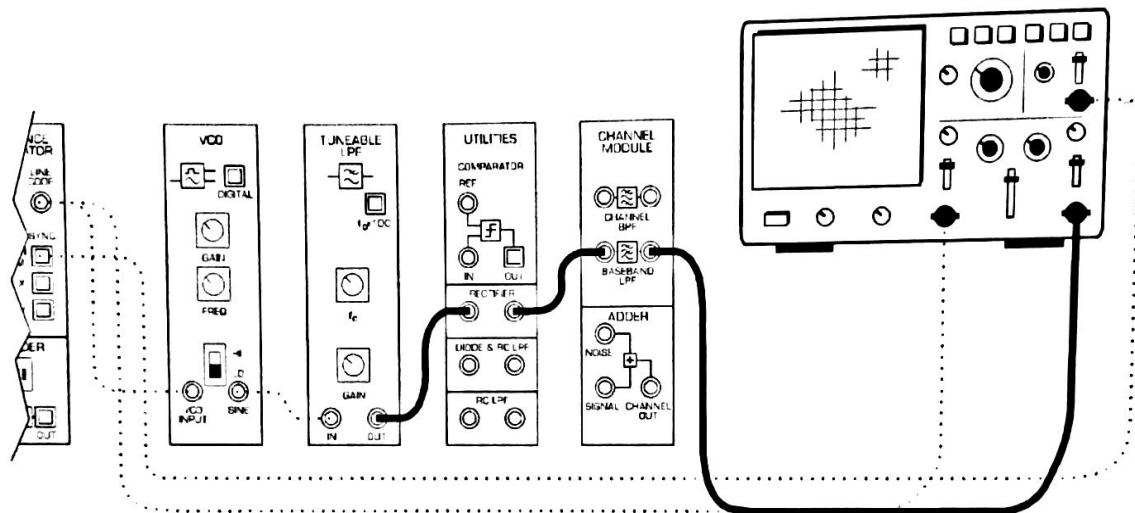

Figure 7
20. Modify the setup as shown in Figure 7 to include the envelope detector.